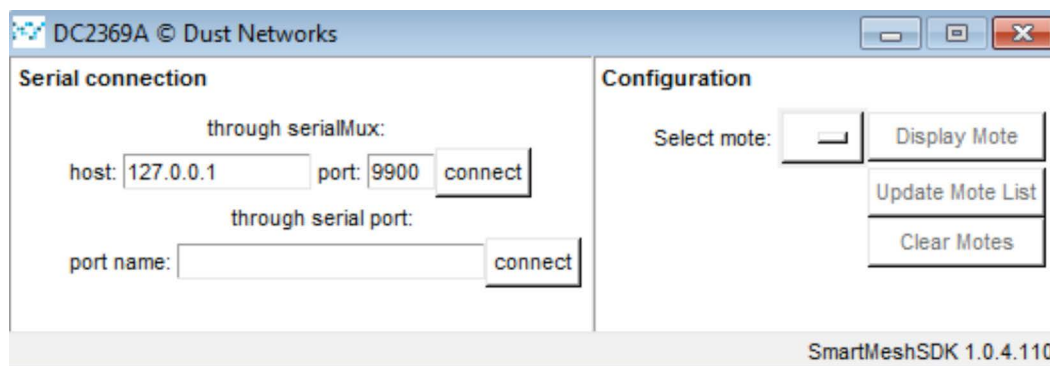

Figure 3. DC2369A GUI Start-Up Window
5. Open the DC2369A GUI. You will see a window similar to that shown in Figure 3.